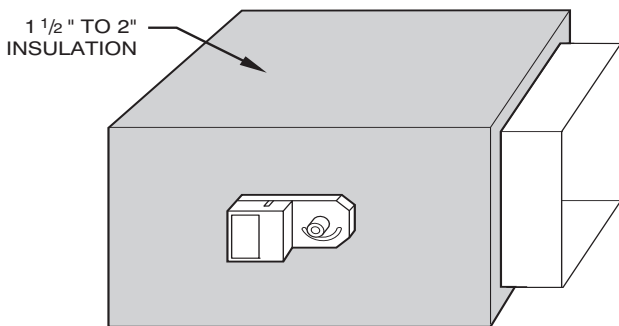

Fig. 4 - Insulated Rectangular Metal Ductwork
3. If dampers are applied in an unconditioned space, insulate them using 1-1/2 inch to 2 inch insulation (See Fig. 4). Again, be sure to position the damper actuator to avoid condensate from the ductwork dripping onto the actuator.